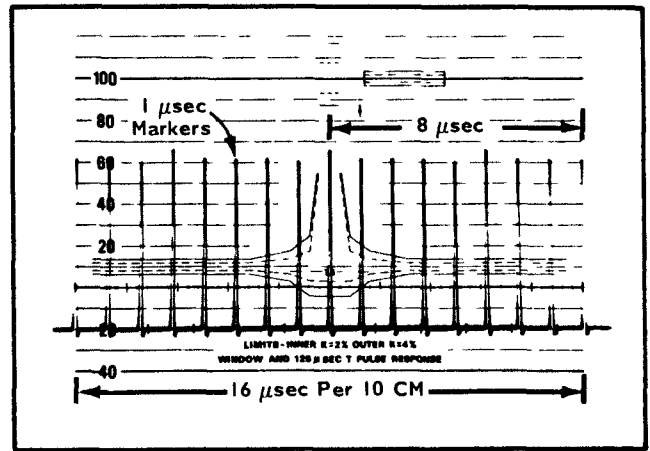

Fig. 6-21. Checking the $\times 5$ sweep timing.
- d. Check for $16\ \mu\text{s}$ of sweep time per 10 cm (see Fig. 6-21). Sweep-timing tolerance should be within ± 3 mm.